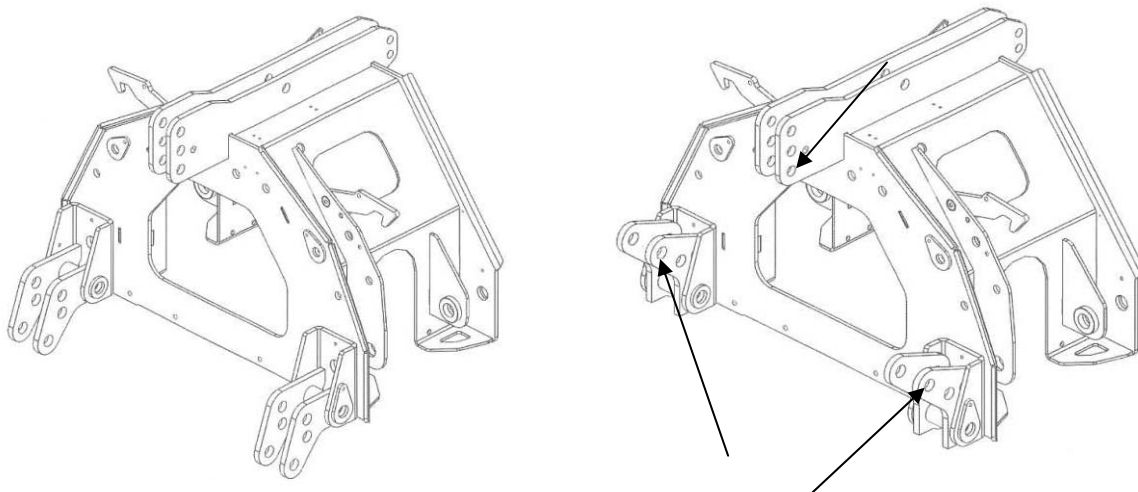

Fig. 5
1. Category III – Standard (see fig. 5) with floating lower links. Both of the inner holes can be used in the lower links.